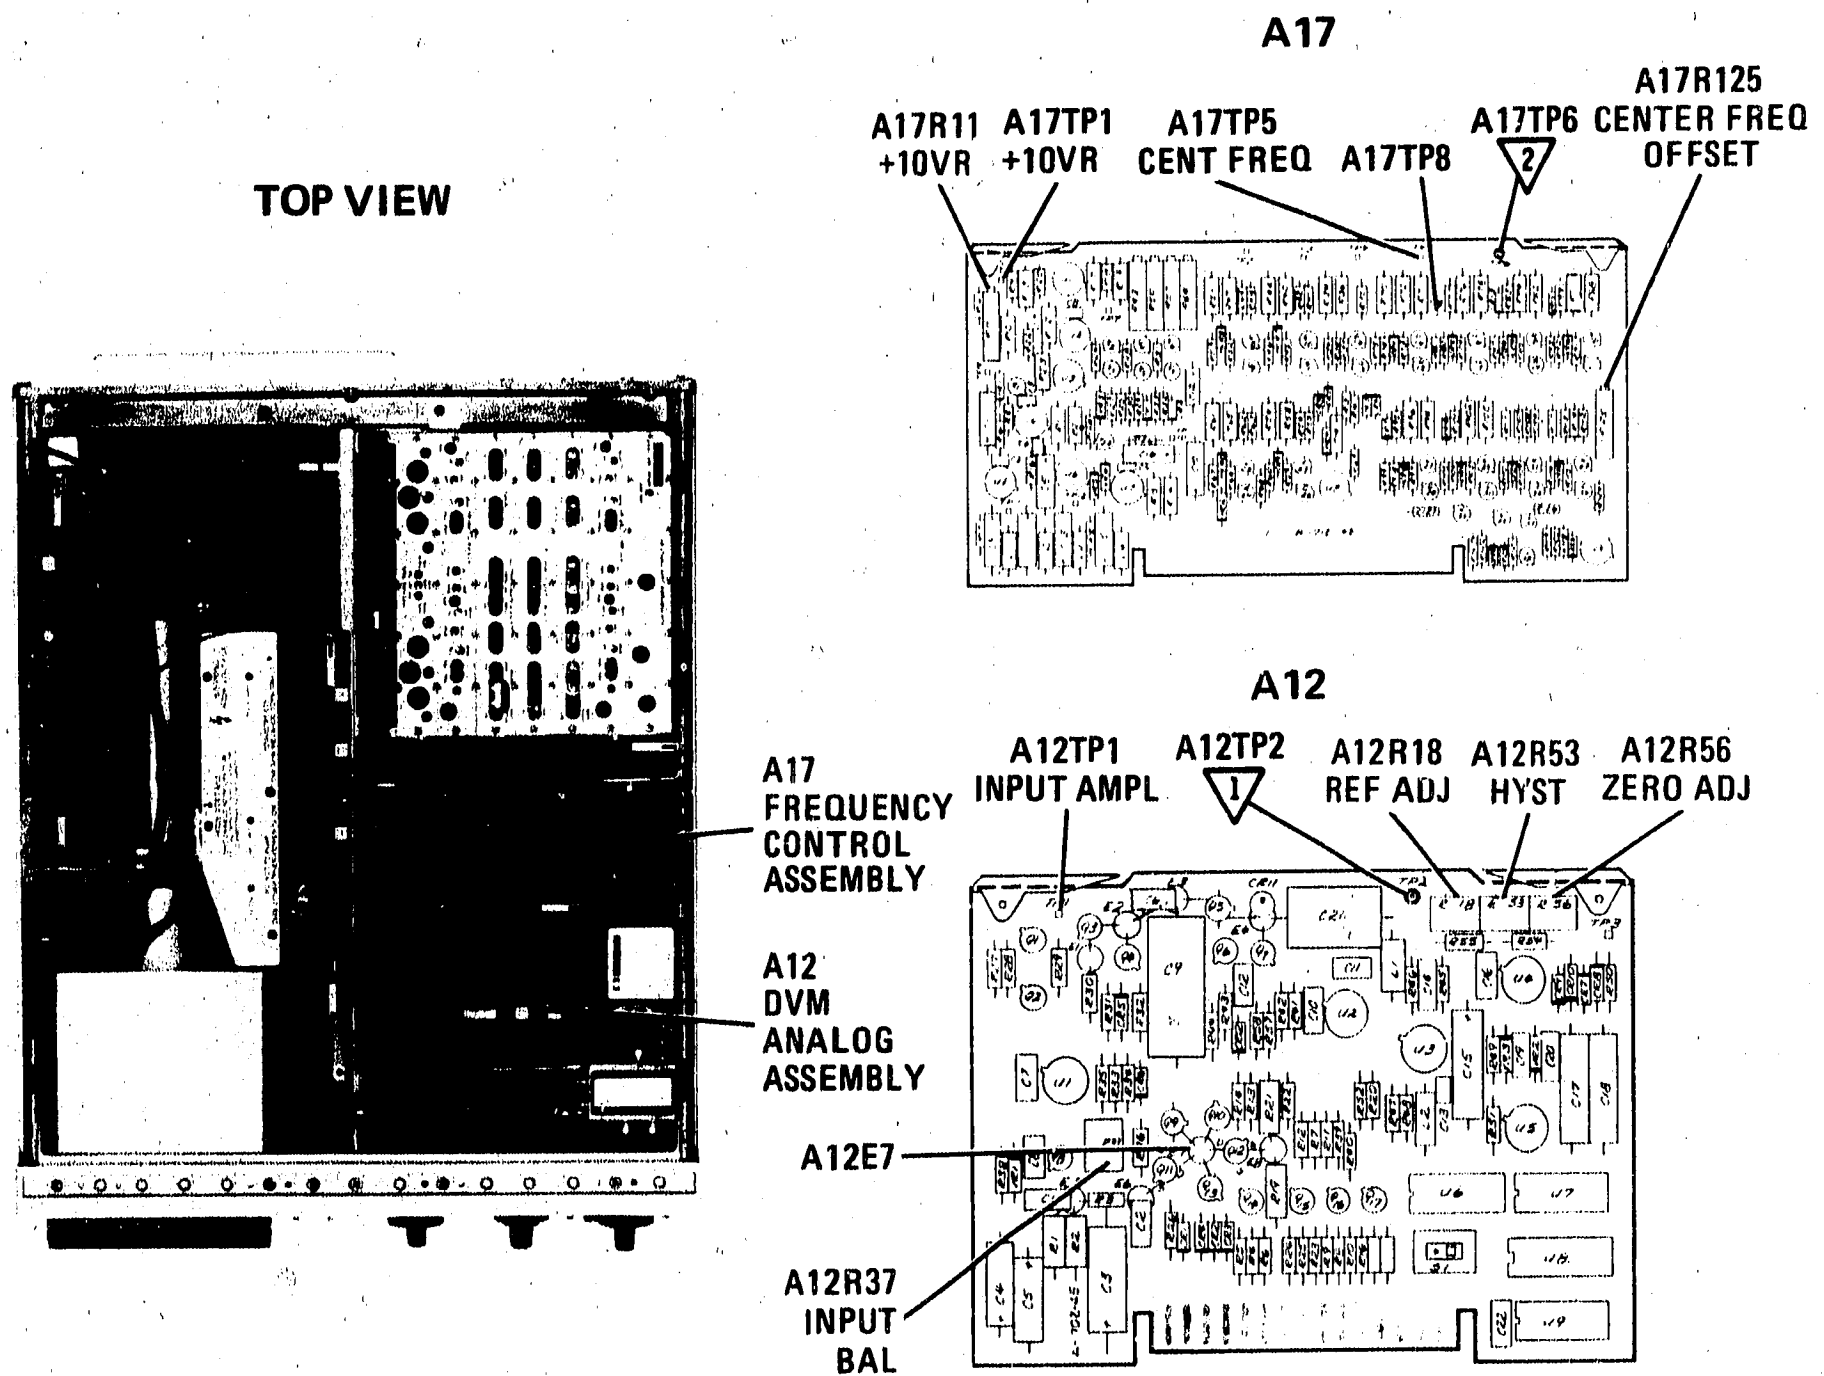

Figure 5-30. +10V Reference and Digital Readout Adjustment Locations
3. Connect digital voltmeter to A17TP1 + 10VR and adjust A17R11 + 10VR (Figure 5-30) for + 10.000  $\pm$  0.0002 V. If unable to adjust A17R11 for + 10V, change factory selected resistor A17R9\*. Decrease in A17R9\* decreases voltage.